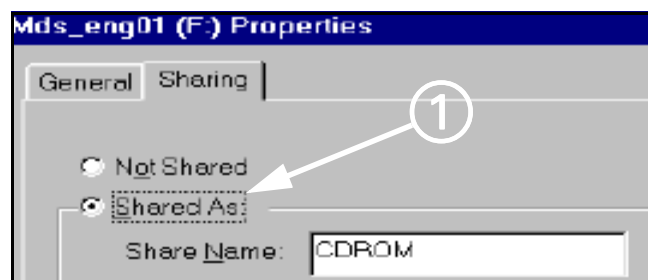

Figure 8-7 Properties Window
- 3) At "Properties" window, click on *Shared As* button (① in Figure 8-7), type **CDROM** in "Share Name:" box, click on *Apply*, then click *OK*.